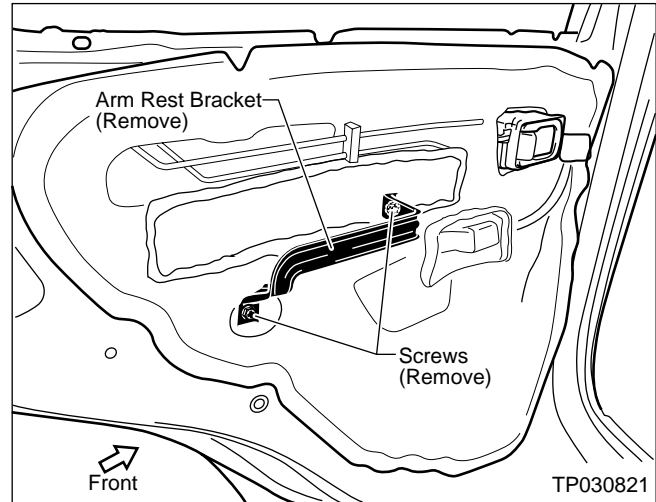

Figure 43
6. Take out two screws and remove the Arm Rest Bracket (see Figure 43).